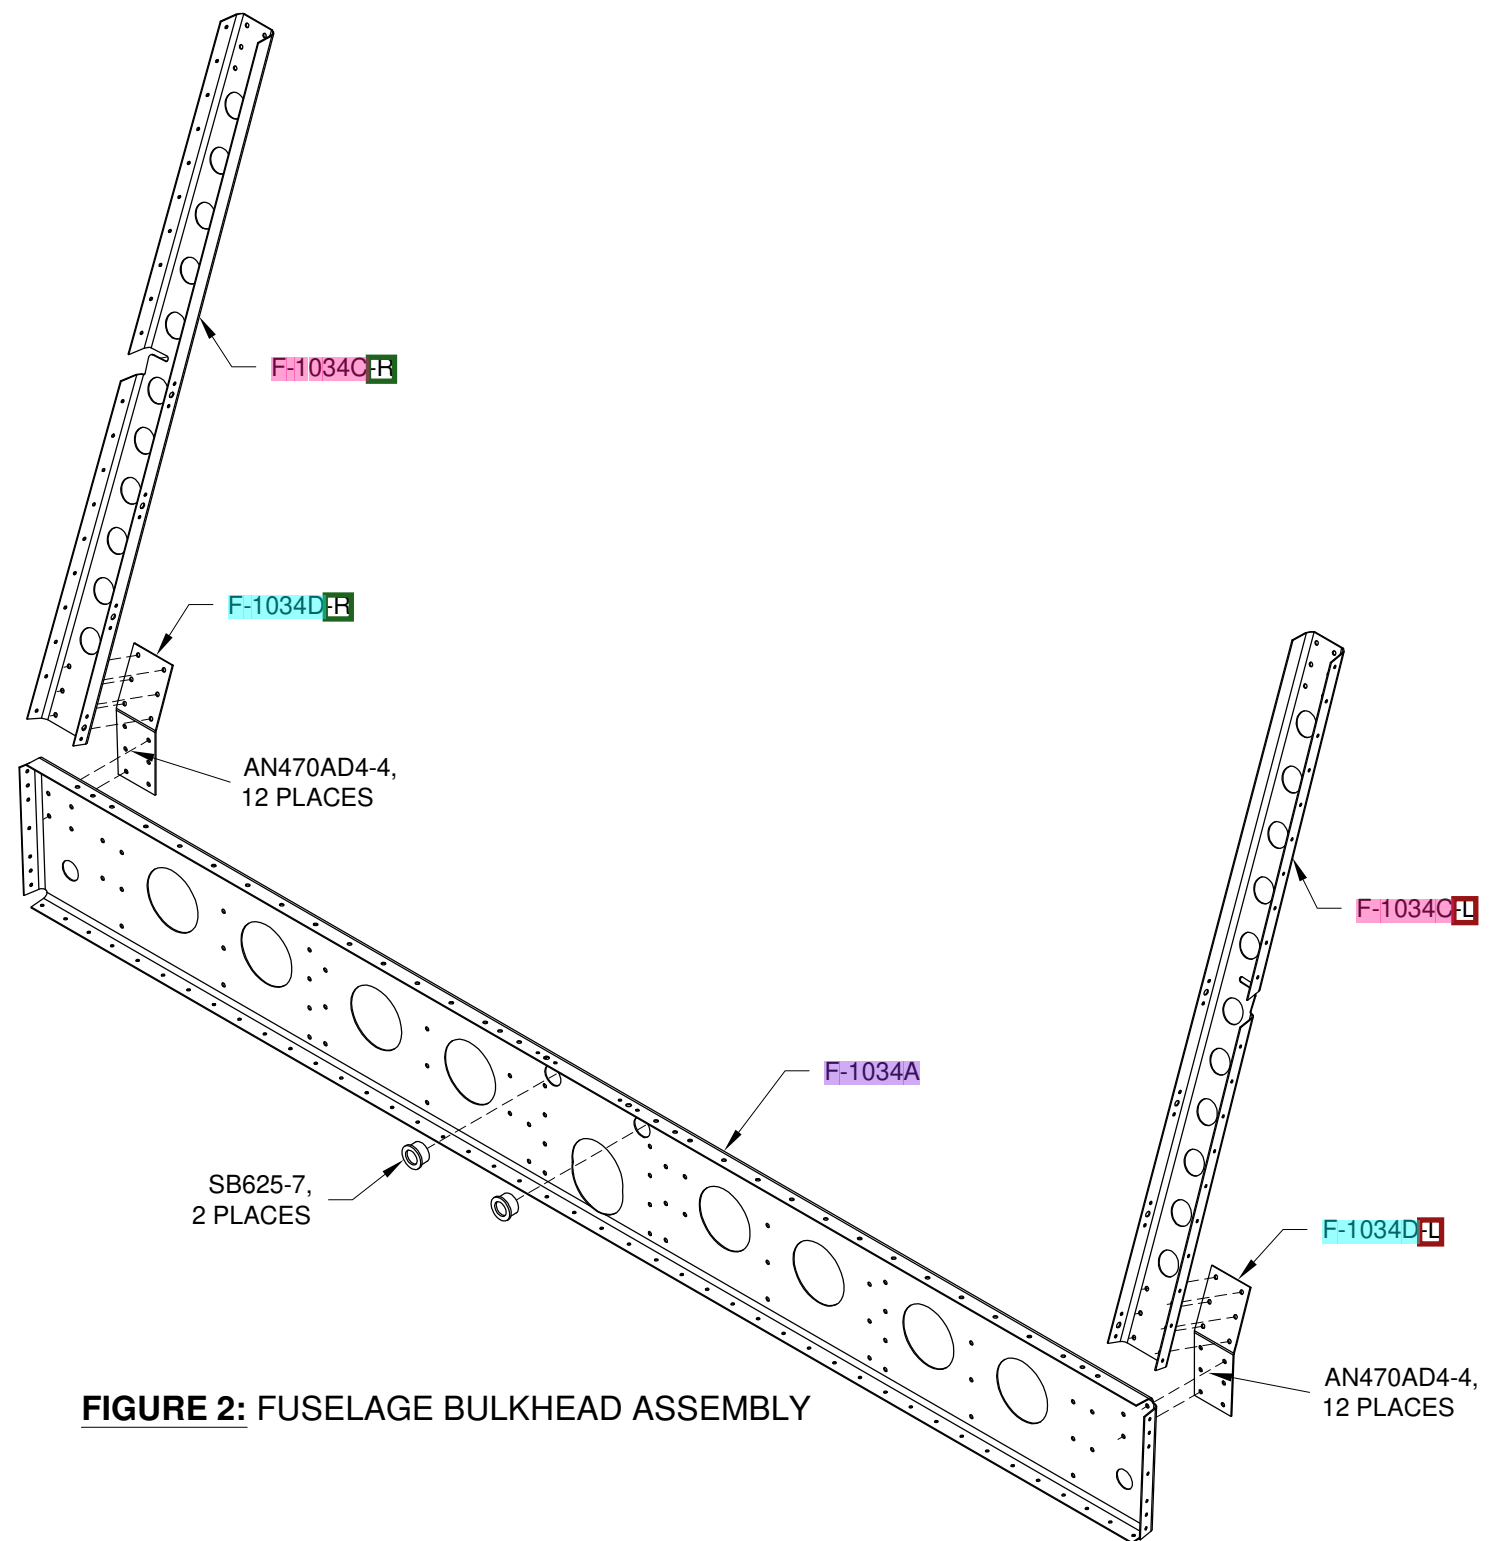

FIGURE 2: FUSELAGE BULKHEAD ASSEMBLY
Step 7: Install snap bushings into the F-1034A Fuselage Bulkhead as shown in Figure 2.